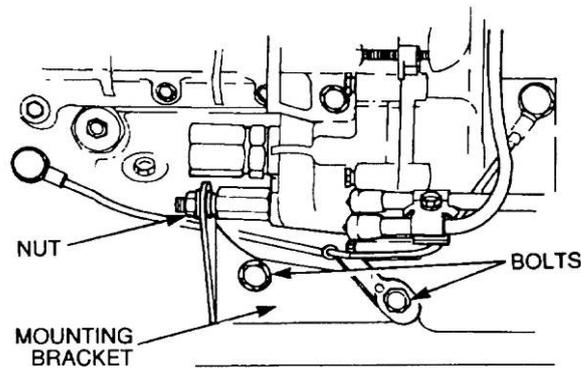

Figure 55 Installing the Injection Pump Rear Mounting Bracket
- bbb.** Install the injection pump rear mounting bracket over the injection pump mounting adapter and onto the engine block. Install the nut and the two retaining bolts together with new lock-washers (Figure 55). Torque the injection pump-to-timing case retaining bolts to 21 to 30 N.m (15 to 22 lbf.ft). Torque the adapter-to-mounting bracket retaining nut and the two bracket retaining bolts to 21 to 30 N.m (15 to 22 lbf.ft).